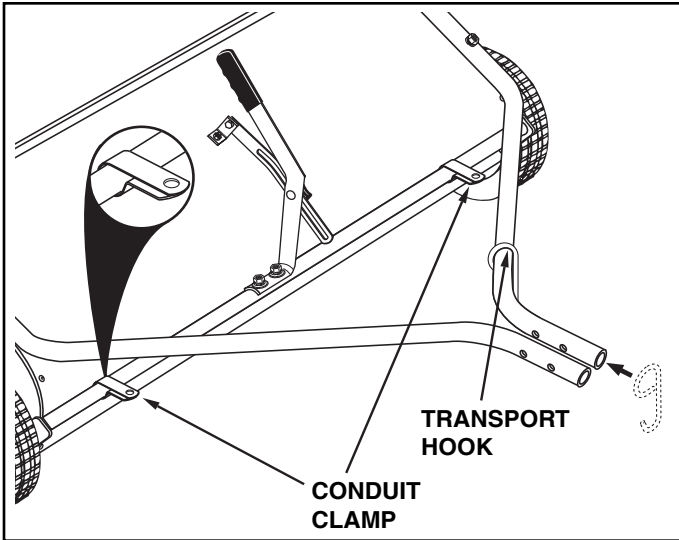

FIGURE 3
- Assemble a conduit clamp onto each end of the sweeper height adjustment tube so that the straight part of the clamp is on top of the tube. See figure 3.
- Remove the hitch brackets and the bolts, if present, from the ends of the sweeper's hitch tubes. Slide the transport hook onto the L.H. hitch tube as shown in figure 3.